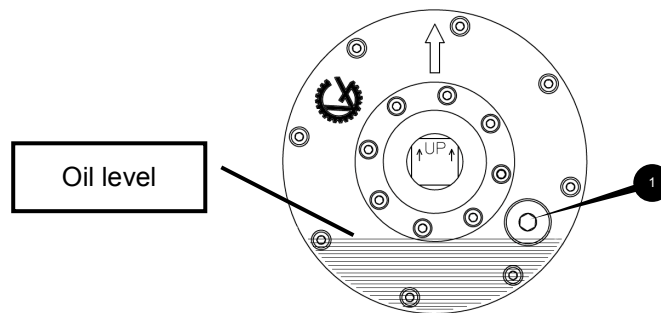

Figure 7: Drum motor with filler plug
- Motor with filler plug (refer to Figure 7: Drum motor with filler plug)
13. Rotate the drum motor until the filler plug ❶ is at the 6 o'clock position.
17. Replace the filler plug and renew the copper washer ❶.